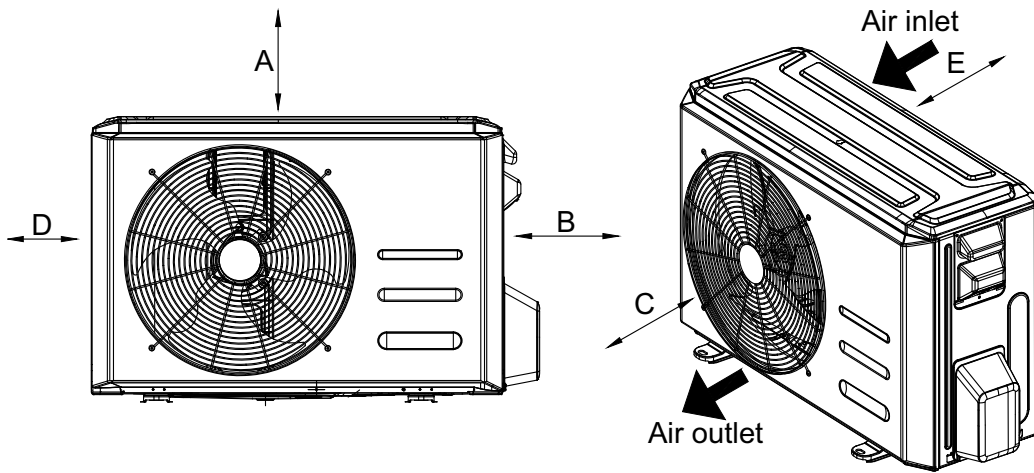

Fig. 8 — Clearances
- A location which provides appropriate clearances (see Fig. 8).
- Allow sufficient space for airflow and service of the unit. See Fig. 8 for the required minimum distances between the unit or walls.